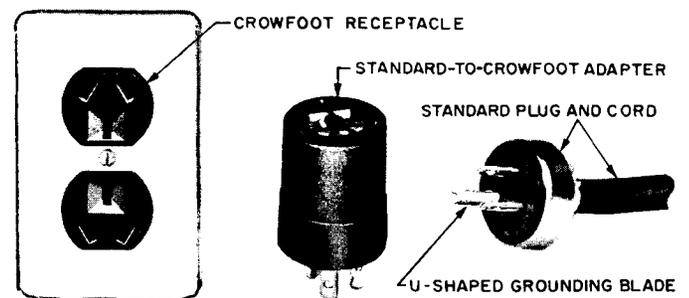

Fig. 2 — Standard-to-crowfoot Adapter
4.02 All electric power tools except lamps and soldering coppers should be equipped with a 3-conductor cord which terminates in a 3-blade plug (see Fig. 2). Lamps and soldering coppers do not require grounding.
Note: The standard-to-crowfoot adapter must be used when the receptacle is a crowfoot type and the plug is standard (see Fig. 2).